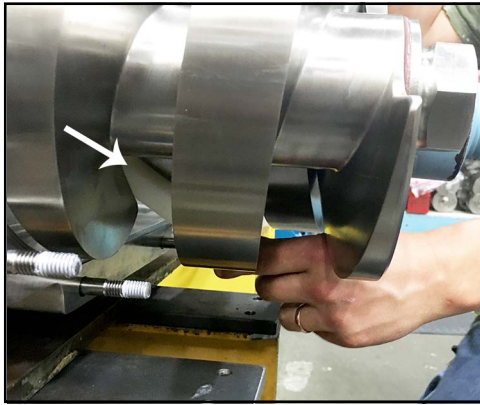

Figure 129 - Block right screw
- (220-UTS only) After tightening the left-hand screw nut, block the right-hand screw from the back of the screw as shown in Figure 129. Torque the right hand screw nut to 275 ft-lb (373 N·m).